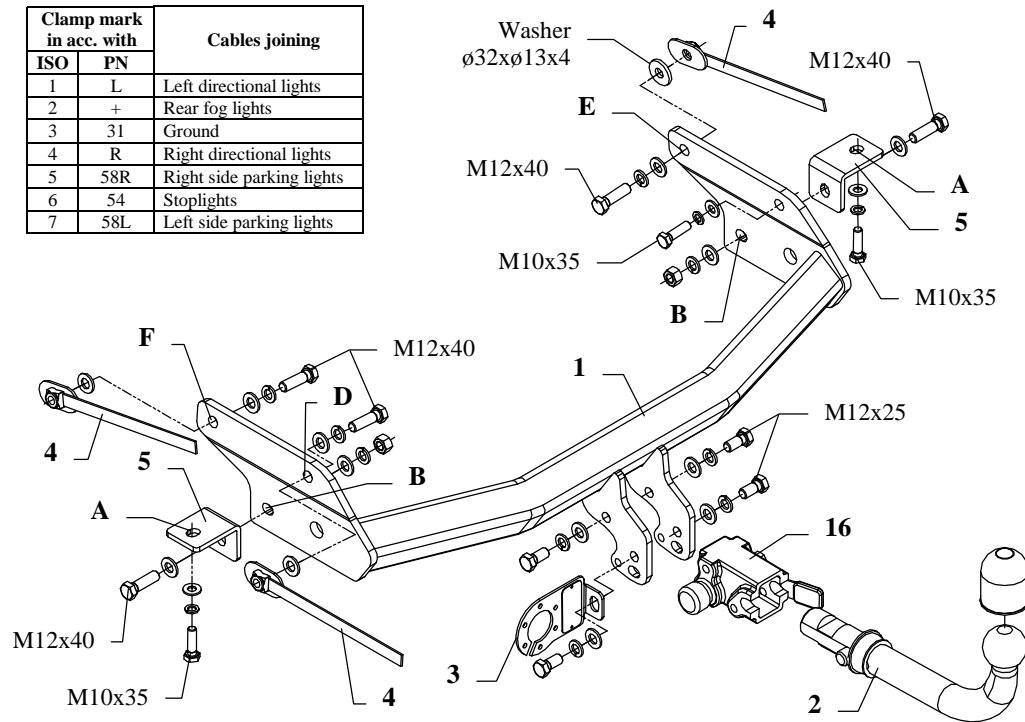
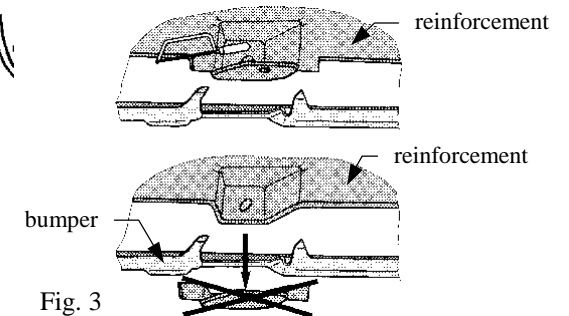

Fig. 1
Fig. 3
**For Chevrolet Trans Sport:** Underneath the bumper, in central section cut out its fragment: width 80mm and depth 40mm. Cut out fragment of bumper reinforcement according to figure 3. Disassemble original towing eye. Put the pin for the rearmost exhaust through hole ø19mm in towing hitch brackets. Mount the towing hitch together with the towing eye on the car.
3. Between installed angle bars put the main bar of the towing hitch (pos. 1) and fix using bolts M12x40mm (pos. 7) through holes (pos. B).
4. On the right side insert bolt M10x35mm in point (pos. C). On the left side insert bolt M12x40mm through hole (pos. D), use nut on the jib (pos. 4). Position the towing hitch horizontally. Drill holes (pos. E and F) in chassis members using bit ø13mm.
5. Fix the main bar of the towing hitch through holes (pos. E and F) using bolts M12x40mm and nuts on the jibs (pos. 4). On the left side remember about big washer ø32xø13x4mm (pos. 9), see figure 1.
6. Fix body of the automat (pos. 16) and the socket plate (pos. 3) using bolts M12x25mm (pos. 6) from accessories. Place tow-ball (pos. 2) according to supplied instruction.